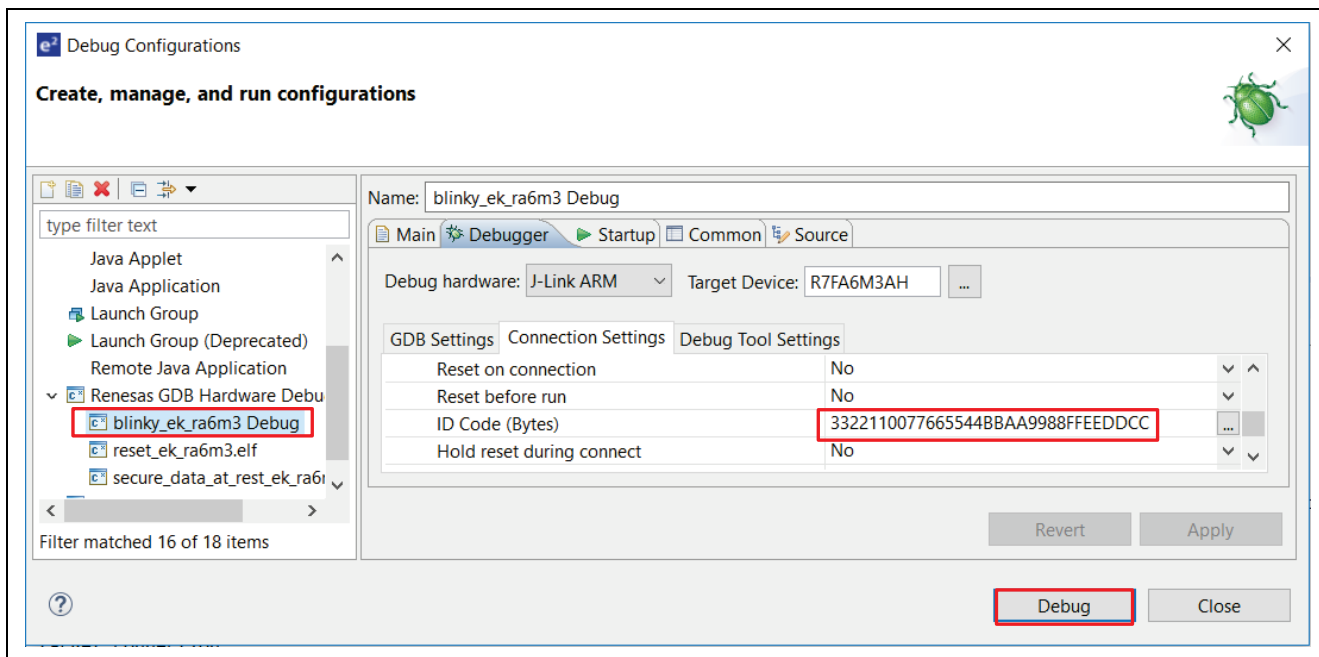

Figure 58. Setup Matching ID Code in Debug Configuration
Step 12: Reset the OSIS ID for the debugger configuration to all FFs (see Figure 58) and confirm the debugging works.